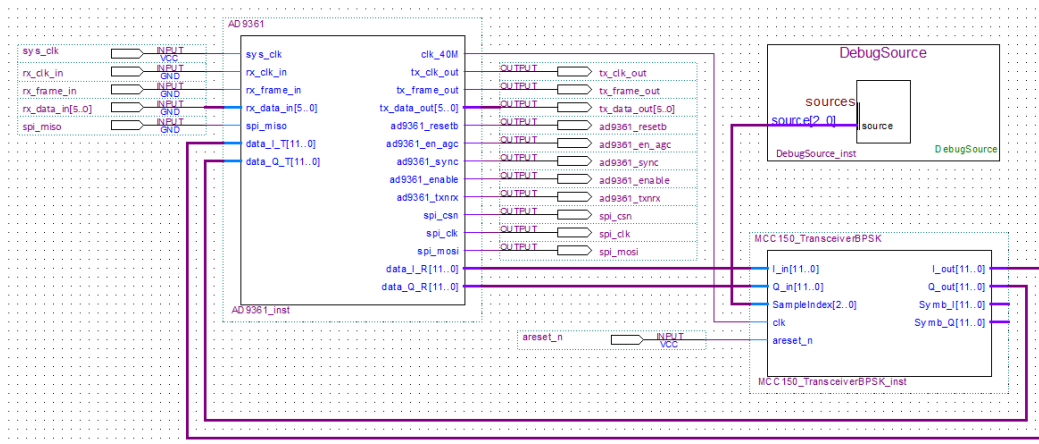

Figure 8: Schematic of the top-level *MCC150_top* design.
- It's now time to import your transceiver system into Quartus Prime. Download the project template from Canvas and import your DSP Builder generated HDL descriptions in the Quartus project by performing the same steps as you did in Exercise 2 in the first lab. Use your new transceiver system instead of the simple transmitter used in the first lab, the connections are shown in Fig. 8. Synthesize your design and open the SignalTap menu. Set the SignalTap clock to the `clk_40M` output from the AD9361 block, the sample depth to 2 K, and to sample the `I_out`, `Q_out`, `I_in`, `Q_in`, `Symb_I` and `Symb_Q` signals of the *TransceiverBPSK* block. Save the SignalTap settings and answer **Yes** when asked if you want to enable SignalTap.
- You must now add the generated IP block to your project. Change the view to **File** in the **Project Navigator** pane, right-click **Files** and choose **Add/Remove Files in Project**, press the ... button and select the file **DebugSource/synthesis/DebugSource.qip**. Open the schematic of your top-level design (*MCC150_top*), add the *DebugSource* symbol and connect it to the **SampleIndex** input of the *MCC150_TransceiverBPSK*. Rename the instance to **DebugSource_inst** and save the schematic, which should now look similar to Fig. 8.